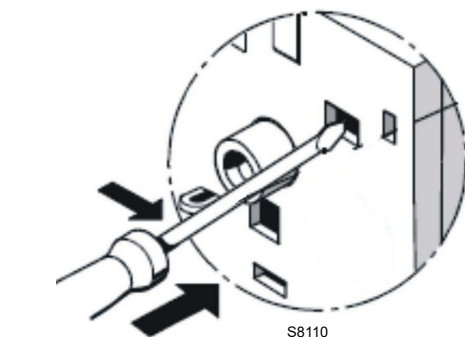

Fig. 38
- **Contact test NC (95-96) and NO (97-98)(Fig. 38)**